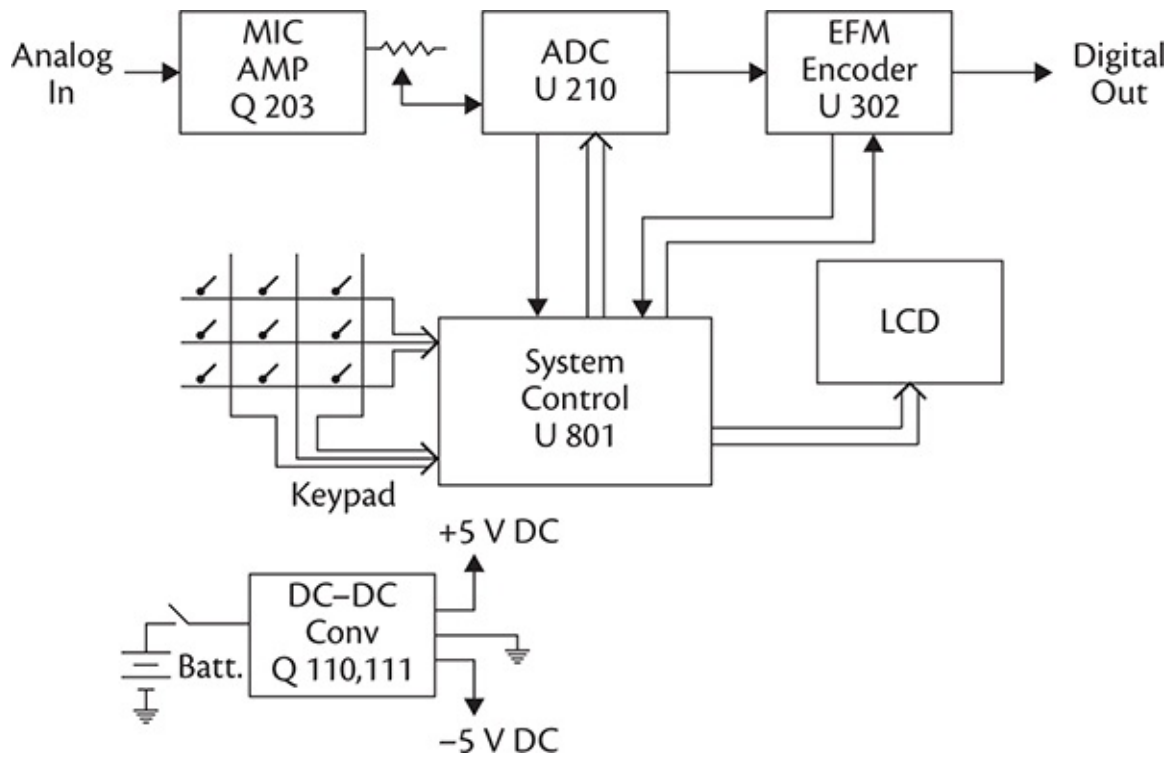

FIGURE 8-1 Block diagram.
- *Block diagram*. This lays out the device by the function of each section and its basic interconnections. It does not show individual components or specific connection points. It's the most general, conceptual view, analogous to a map showing cities and route numbers for major highways between them, but not street-level detail (Figure 8-1).